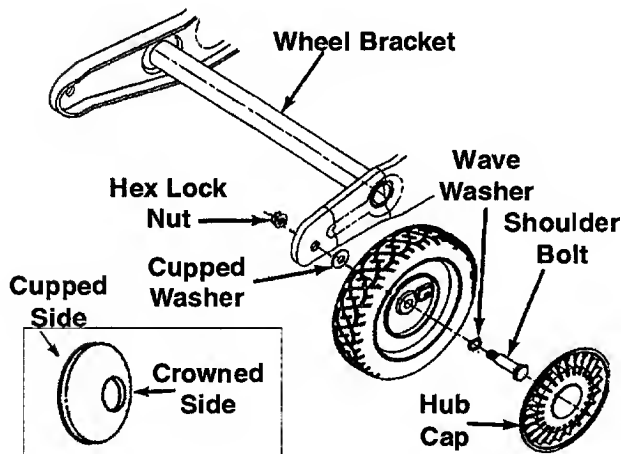

Figure 2
2. Remove the hex lock nuts and shoulder bolts from the front of the wheel brackets. See Figure 2.
NOTE: Cupped side of the washer goes against the chipper chute. See Figure 2 to identify cupped side of washer.